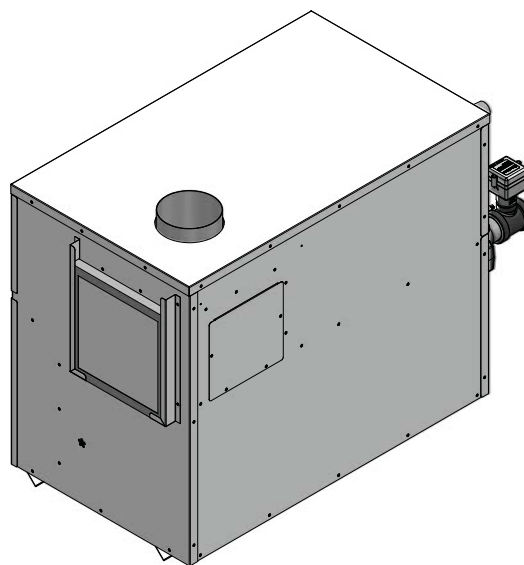

Figure 1-8 Moving Air Filter / Bracket Assembly from Rear of Unit to Side
3. Move the filter/bracket assembly from the rear of unit to the side opening (see FIG. 1-8).